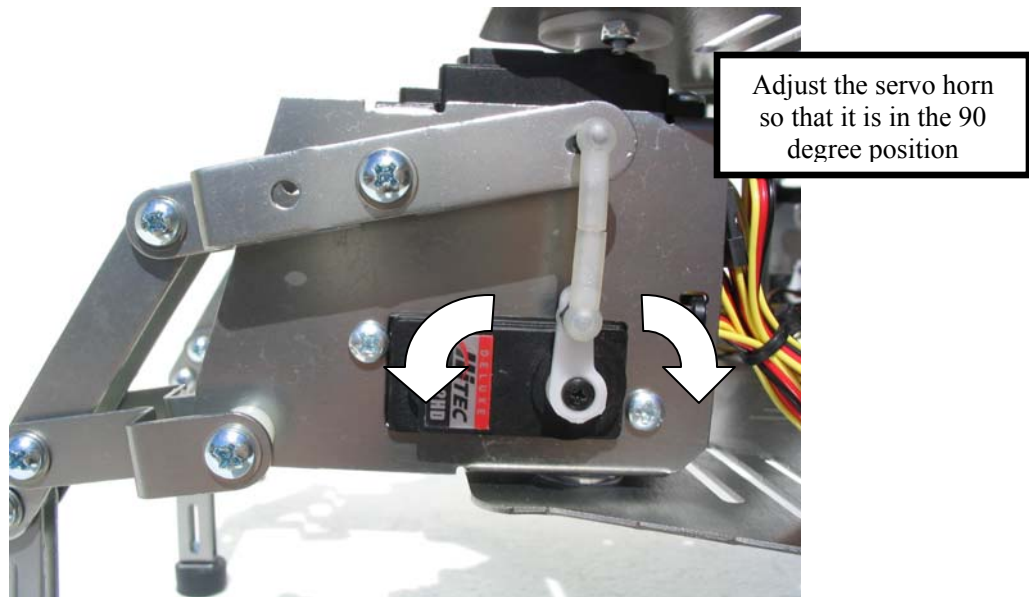

Figure 57
1. Loosen the servo screw on the servo control horn and remove the servo control horn. (Figure 57)